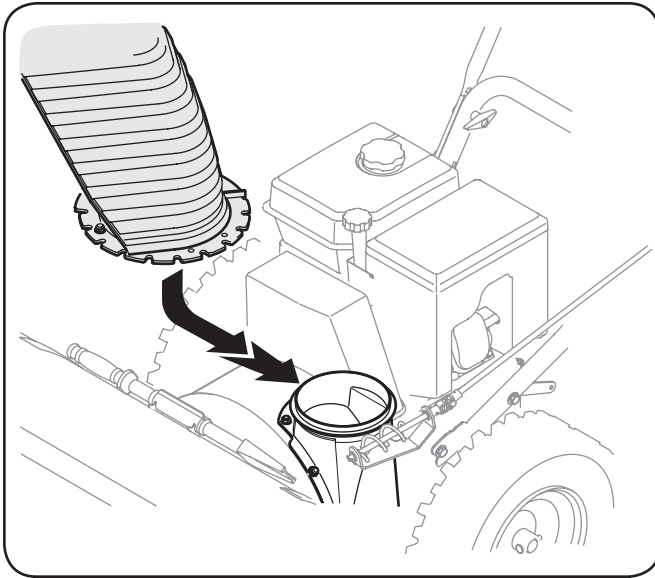

Figure 3-3
3. Place chute assembly onto chute base as shown in Figure 3-3. Make sure that the chute notches engage with the spiral end of chute directional control, and the two flange keepers are beneath the flange on the chute base.